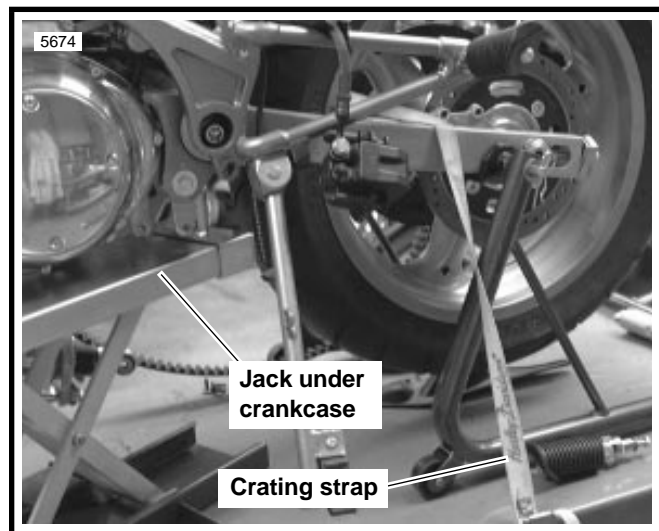

Figure 6-7. Crating Strap
15. See Figure 6-7. Place a jack underneath the rear swingarm and underneath the front of the crankcase.